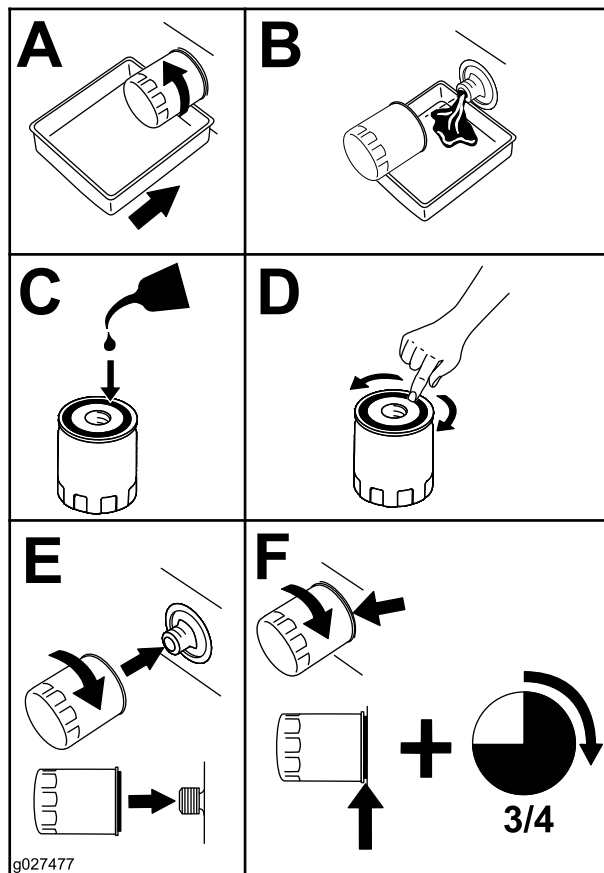

Figure 68
- Change the engine-oil filter (Figure 68).